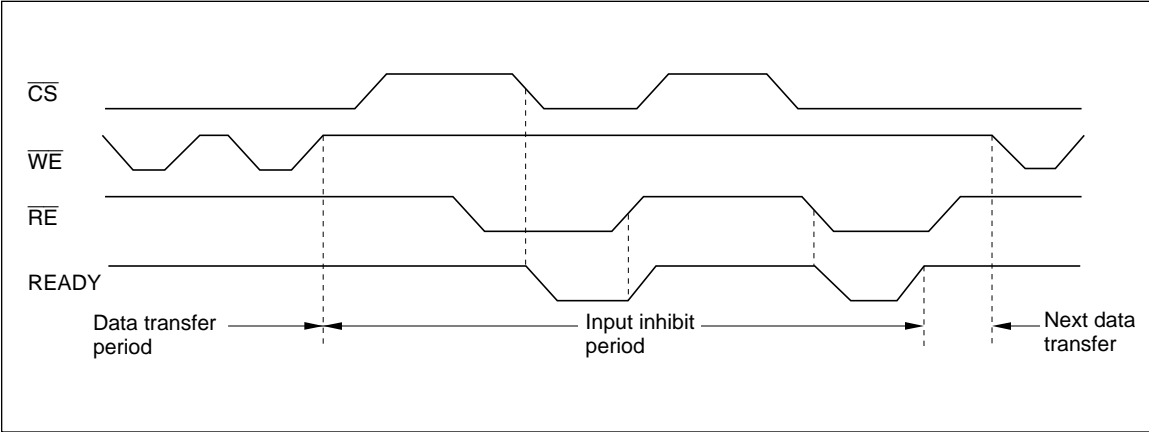

Figure 15 READY Output Timing (When It Is Made Available by \overline{CS} and \overline{RE})
- b. READY is made available by \overline{CS} and \overline{RE} (figure 15).